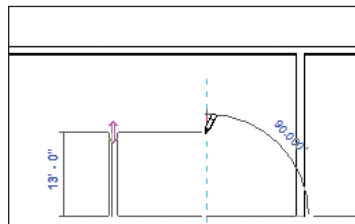

FIGURE 2.19 By using the Offset command as you draw walls, you can use one common centerline.
10. After you pick the 25'-0" distance, move your cursor up, back toward the wall, as shown in Figure 2.19, resulting in a 25' long wall.